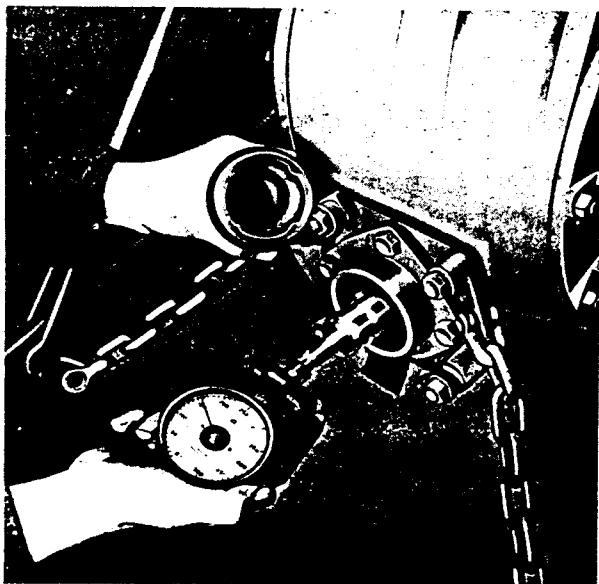

FIG. 7
1. Thoroughly warm up engine. Disconnect fork end (A) of throttle tie rod from governor lever by removal of clevis. Set idling stop and mixture control screw to give a steady idling speed of 400-450 r.p.m. as described in Section E. This speed can be checked by means of a tachometer applied to the rear end of P.T.O. shaft as shown in Fig. 7.